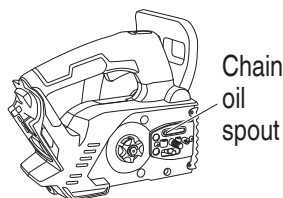

Fig. 44
3. Cleaning the chain oil spout (Fig. 44)